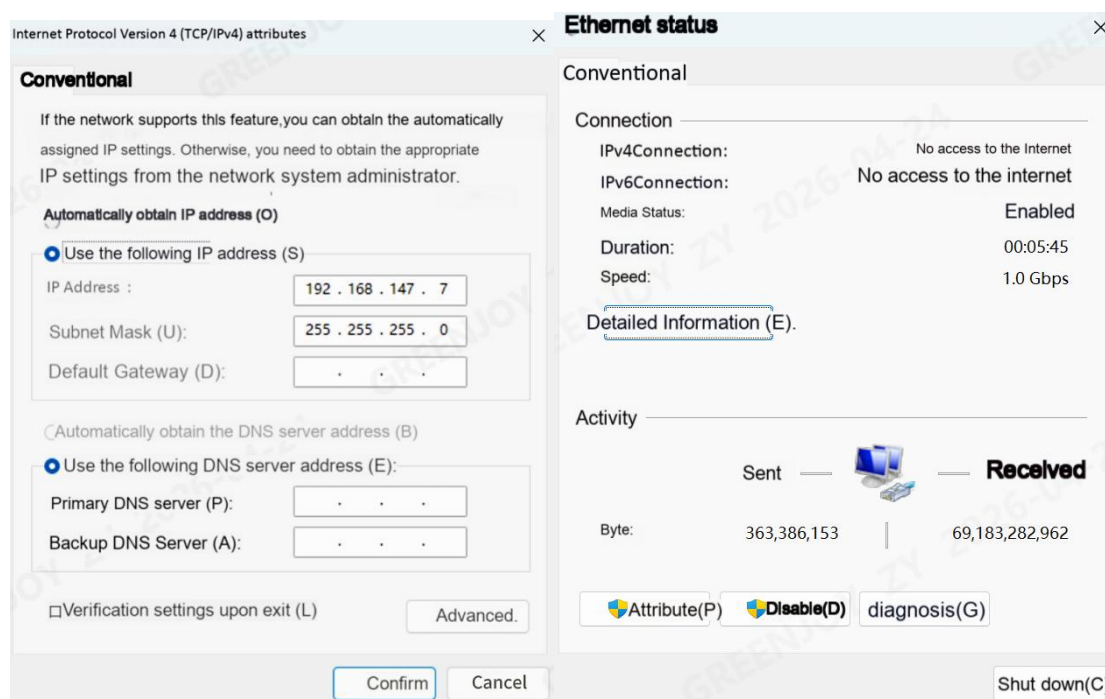

Figure 1
4.1.1. The default factory IP of the monitor of the Rigel3 Pro is "192.168.147.147", connect the monitor directly to the computer, and then set the computer IP to the same network segment "192.168.147.***" through the TCP/IPv4 attribute of the Ethernet attribute (** is a value other than the monitor IP, as shown in Figure 1). Also pay attention to whether the following is a Gigabit network connection.